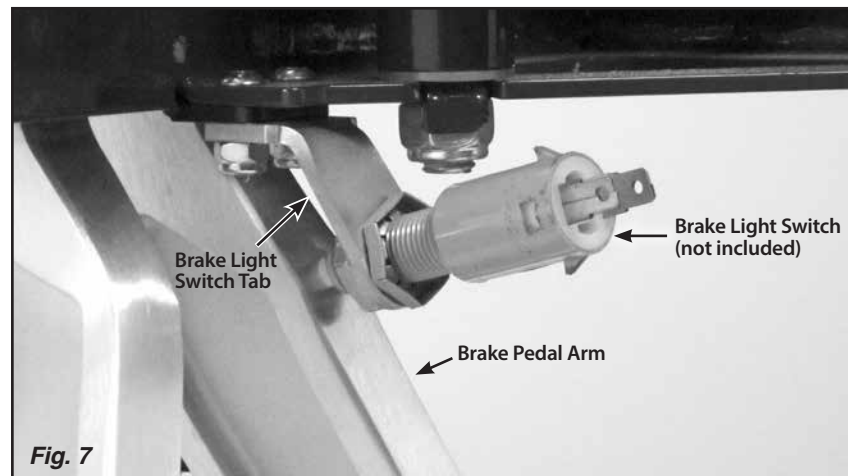

Fig. 7
Step 6: Install the brake light switch tab that came with the Lokar Brake and Clutch Pedal Arms using the original Kugel hardware. Install the brake light switch (not included) into the brake light switch tab. **Fig. 7** Turn the brake light switch in or out as required to adjust the switch. The brake light should turn on when the Brake Pedal Arm is depressed approximately 1/2". Make sure the brake lights are not on with the Brake Pedal Arm in the at rest position.